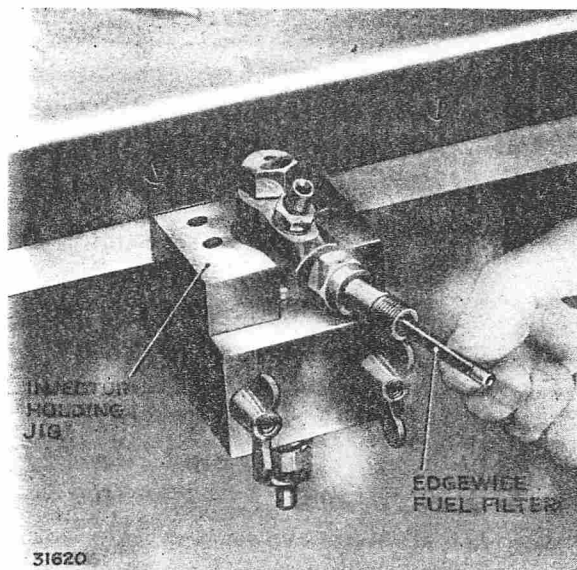

FIG. 56. FITTING THE EDGEWISE FILTER
2. Fit the injector body in the holding jig (Fig. 56), so that the body is in an upright position.